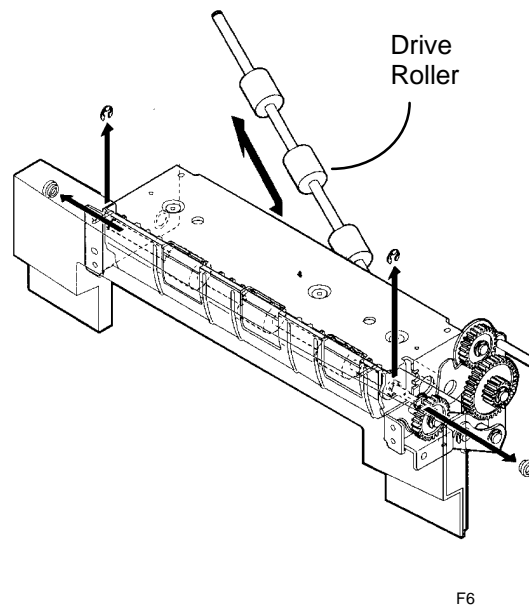

Figure 2. Removing the Tray 2 Drive Roller
4. (Figure 2): Remove the Tray 2 Drive Roller.